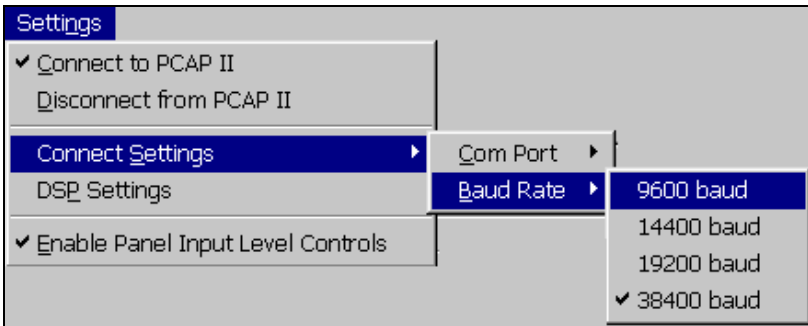

Figure 6-2 Baud Rate Selection Menu
- d. When the pulldown menu appears, click on "BaudRate". The display will now appear as follows (Figure 6-2):